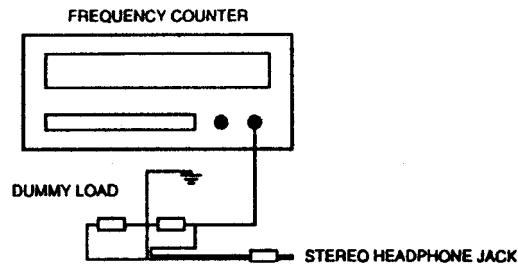

Figure3. Tape Speed Adjustment
2. Connect a frequency counter with a 32 ohm dummy load to the stereo headphone jack. (See Figure 3.)